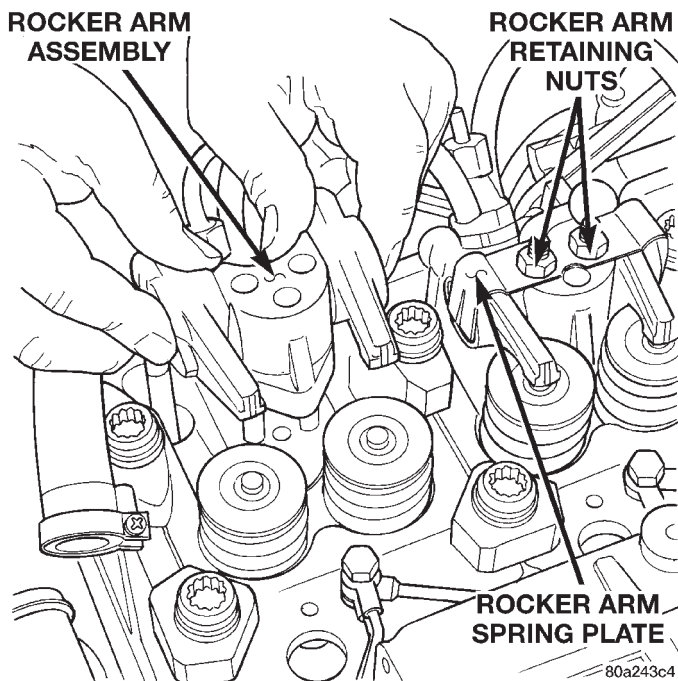

Fig. 29 Rocker Arm Retaining Nut
- (1) Disconnect the negative battery cable.
- (2) Discharge the air conditioning system, if equipped. Refer to Group 24, Heating and Air Conditioning for procedure.
- (3) If equipped with air conditioning, remove the service valves and cap the compressor ports. Refer to Group 24, Heating and Air Conditioning.
- (4) Remove the generator bracket.
- (5) Remove the cylinder head cover. Refer to cylinder head cover removal and installation in this section.
- (6) Remove the rocker arm retaining nut (Fig. 29).